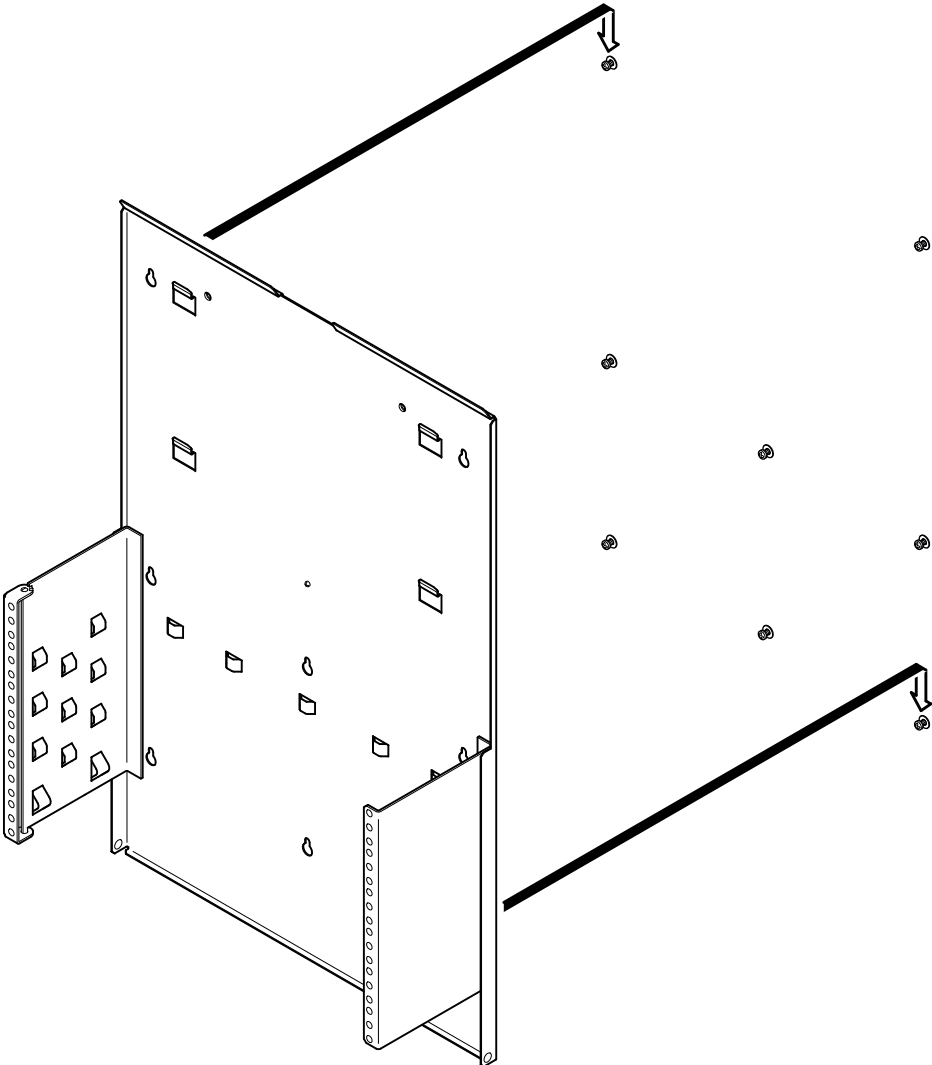

Figure 1 Wall Mount Plate
1. Locate the wall mount plate (Figure 1), and have someone hold it in place against the wall. To place the LED indicators of the Work Group units at eye level it is recommended that the top of the wall plate be approximately 63 inches from the floor.